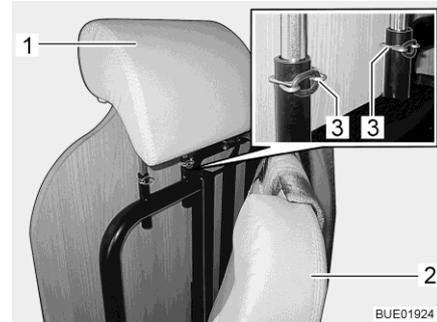

Fig. 12 Adjusting the headrest
Before commencing the journey, adjust the headrest (Fig. 12,1) so that the back of the head is supported at approximately ear height.
- Fold the cushion (Fig. 12,2) forwards.
- Remove the safety clamps (Fig. 12,3).
- Pull the headrest (Fig. 12,1) upward or push it downward until it reaches the desired locking position.